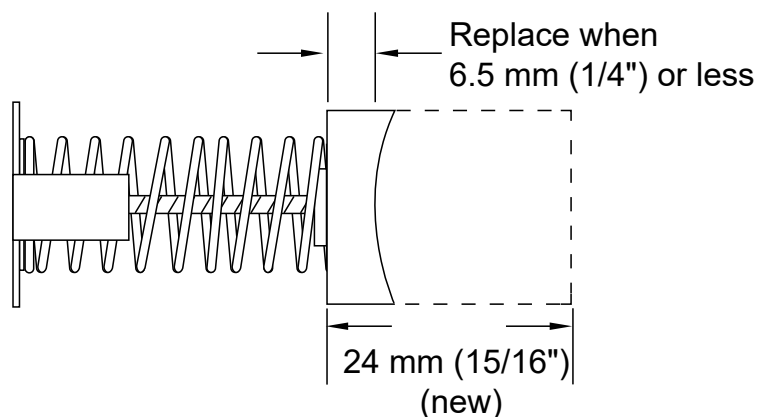

Fig. 22.
- C. The brush assemblies must be replaced if they are 6.5 mm (1/4") long or less (see figure 22).